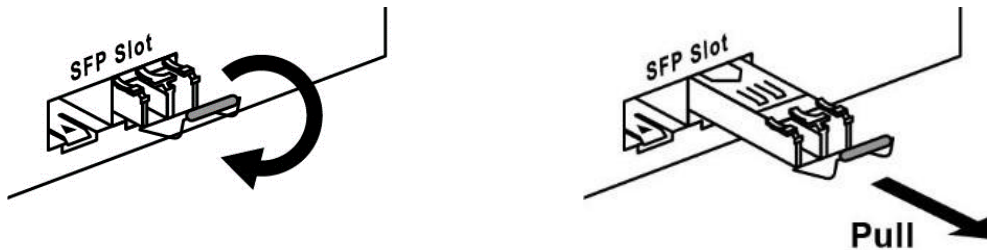

Figure 2.8 - Pull Out from the SFP Module
Step 2 - Push down the metal clasp and pull the transceiver out by the plastic part as shown below in *Figure 2.8*.